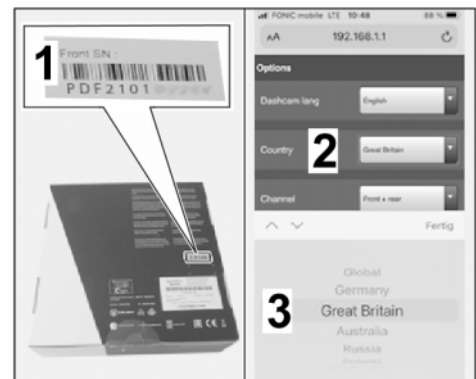

Figure 28
5.3.2 Select country (⇒ *Figure 28*).